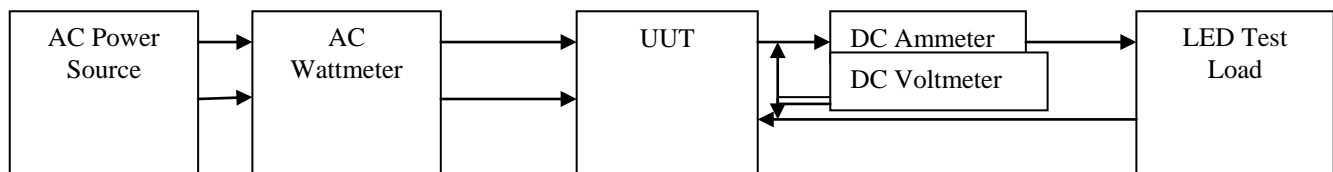

Figure 2. Test Set Up
1. Connect the LED Load to J2 through the ammeter shown in Figure 2. **Caution: Observe the correct polarity or the load may be damaged.**
6. Connect the DC voltmeter as shown in Figure 2.